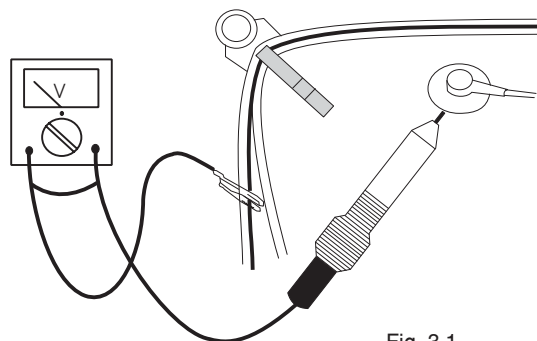

Fig. 3.1
3.1 In order to prevent damage to ICs and transistors, all high-voltage flash-overs must be avoided. In order to prevent damage to the picture tube, the method shown in Fig 3.1 should be used to discharge the picture tube. Use a high-voltage probe and a multimeter (position DC-V). Discharge until the meter reading is 0V (after approx 30s).